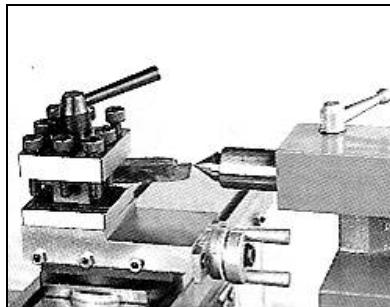

**Fig 5**
Avoid short clamping contact (A, Fig 5) or clamping on a minor part diameter (B).